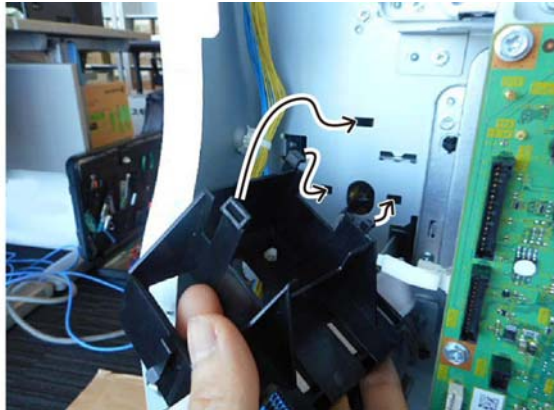

Figure 8 FFC guide insertion
3. When installing the FCC cable guide, FCC cables and wire harness, insert the three hooks of the FCC Cable Guide into the installation holes on the metal chassis, Figure 8.